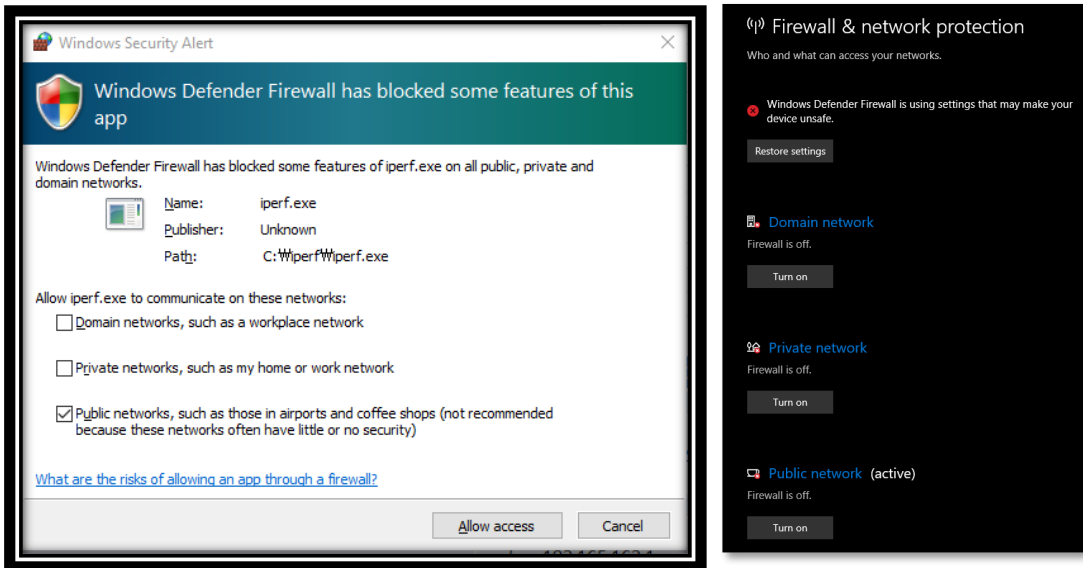

Figure 48. Disable firewall for iPerf test
- To ensure stable iPerf testing, run the Windows Security APP and turn off the network firewall. Renesas recommends disabling the laptop from all network firewalls before attempting a test as shown in Figure 48.